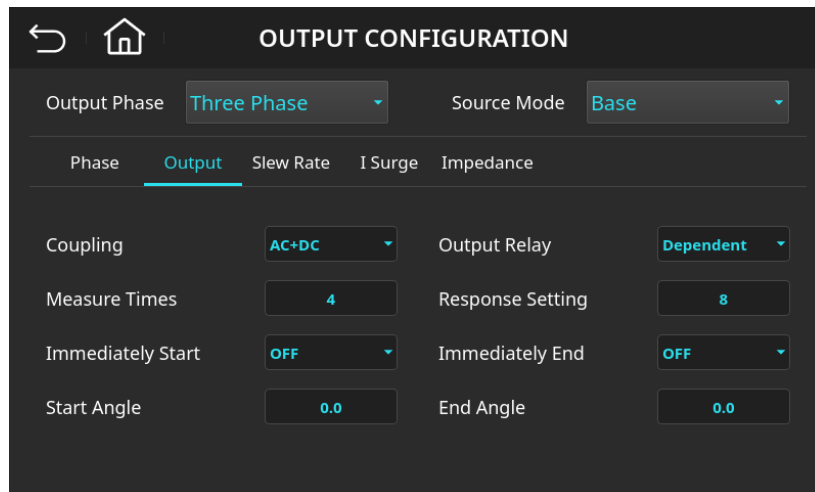

Figure 4-38: Output Configuration (Output) Page – Measure Times Set to 4
3. Enter  and press the  key. The value will change to “4”, as shown in Figure 4-38.